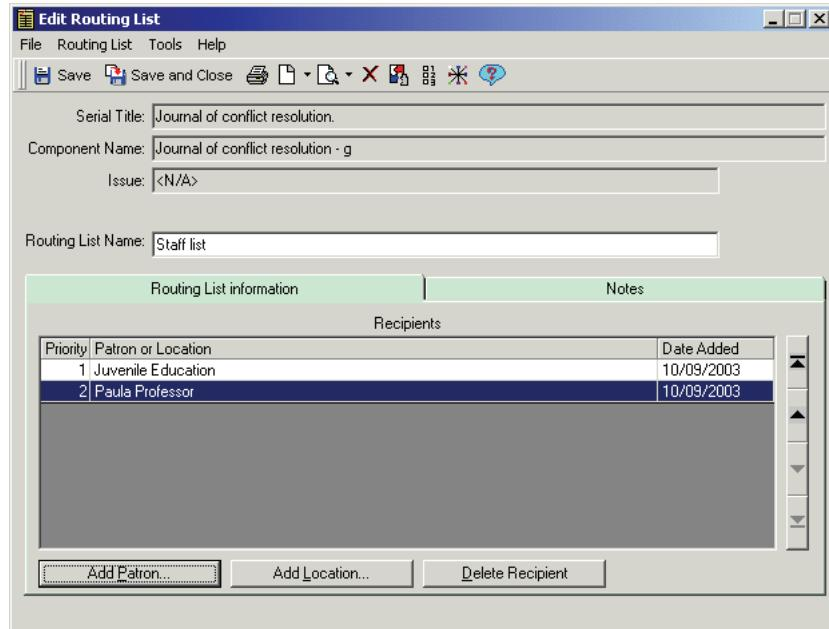

Figure 8-24. Edit Routing List dialog box
1. On the **Routing Lists** tab, select the routing list that you want to delete and click the **Edit** button. The **Edit Routing List** dialog box opens (see Figure 8-24).